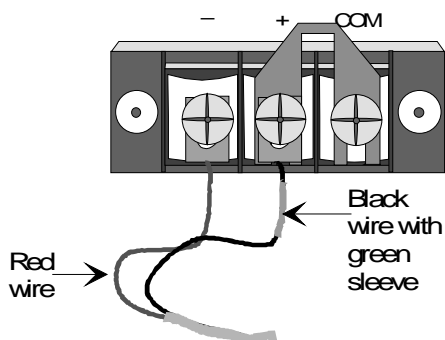

Figure 2-9. DID Power Cord Connected to Power Supply
- a. Connect the black wire with the green sleeve to the "+" contact and tighten the contact screw (Figure 2-9).
- b. Connect the red wire to the "-" contact and tighten the contact screw (Figure 2-9).